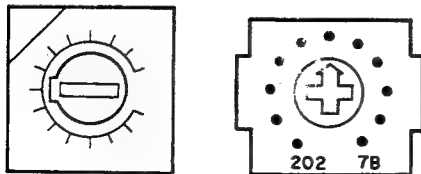

Fig. 1-6.
3. Set the H. STATIC CENTER control (RV23) on the DC board to mechanical center as shown in Fig. 1-6.